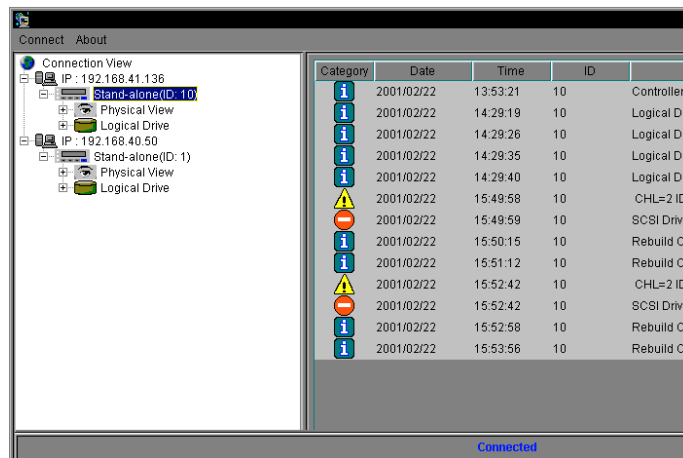

Figure 12-3: Event Monitor Window
Step 3. The connection is successful when the list of events shown in *Figure 12-3* appears and the Physical view and logical unit subtrees appear in the navigation panel.